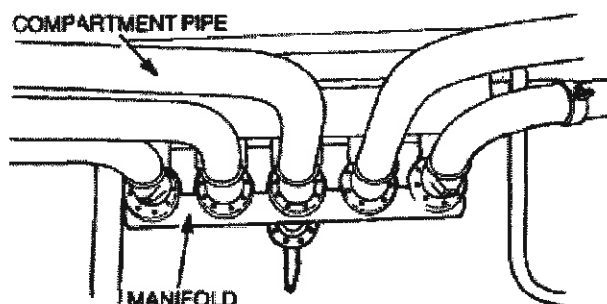

Figure 53 Inlet/Outlet Pipes and Manifold
- d. Remove the bolts, nuts and washers securing the pipe flange to the manifold flange (Figure 53).